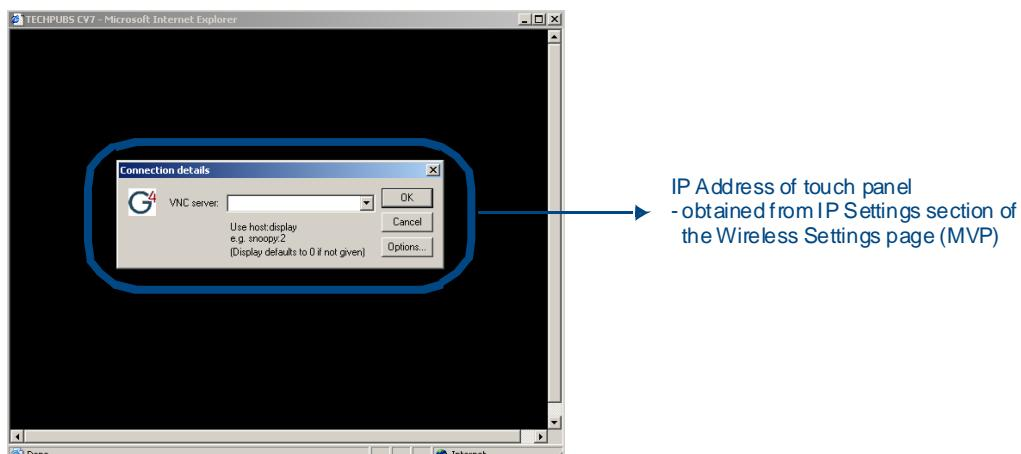

FIG. 44 Connection Details dialog
7. Some situations might display a *Connection Details* dialog (FIG. 44) requesting a VNC Server IP Address. This is the IP Address not of the Master but of the target touch panel. Depending on which method of communication is being used, it can be found in either:
9. Enter the Web Control session password into the *Session Password* field (FIG. 44). This password was previously entered into the Web Control Password field within the G4 Web Control page on the panel.